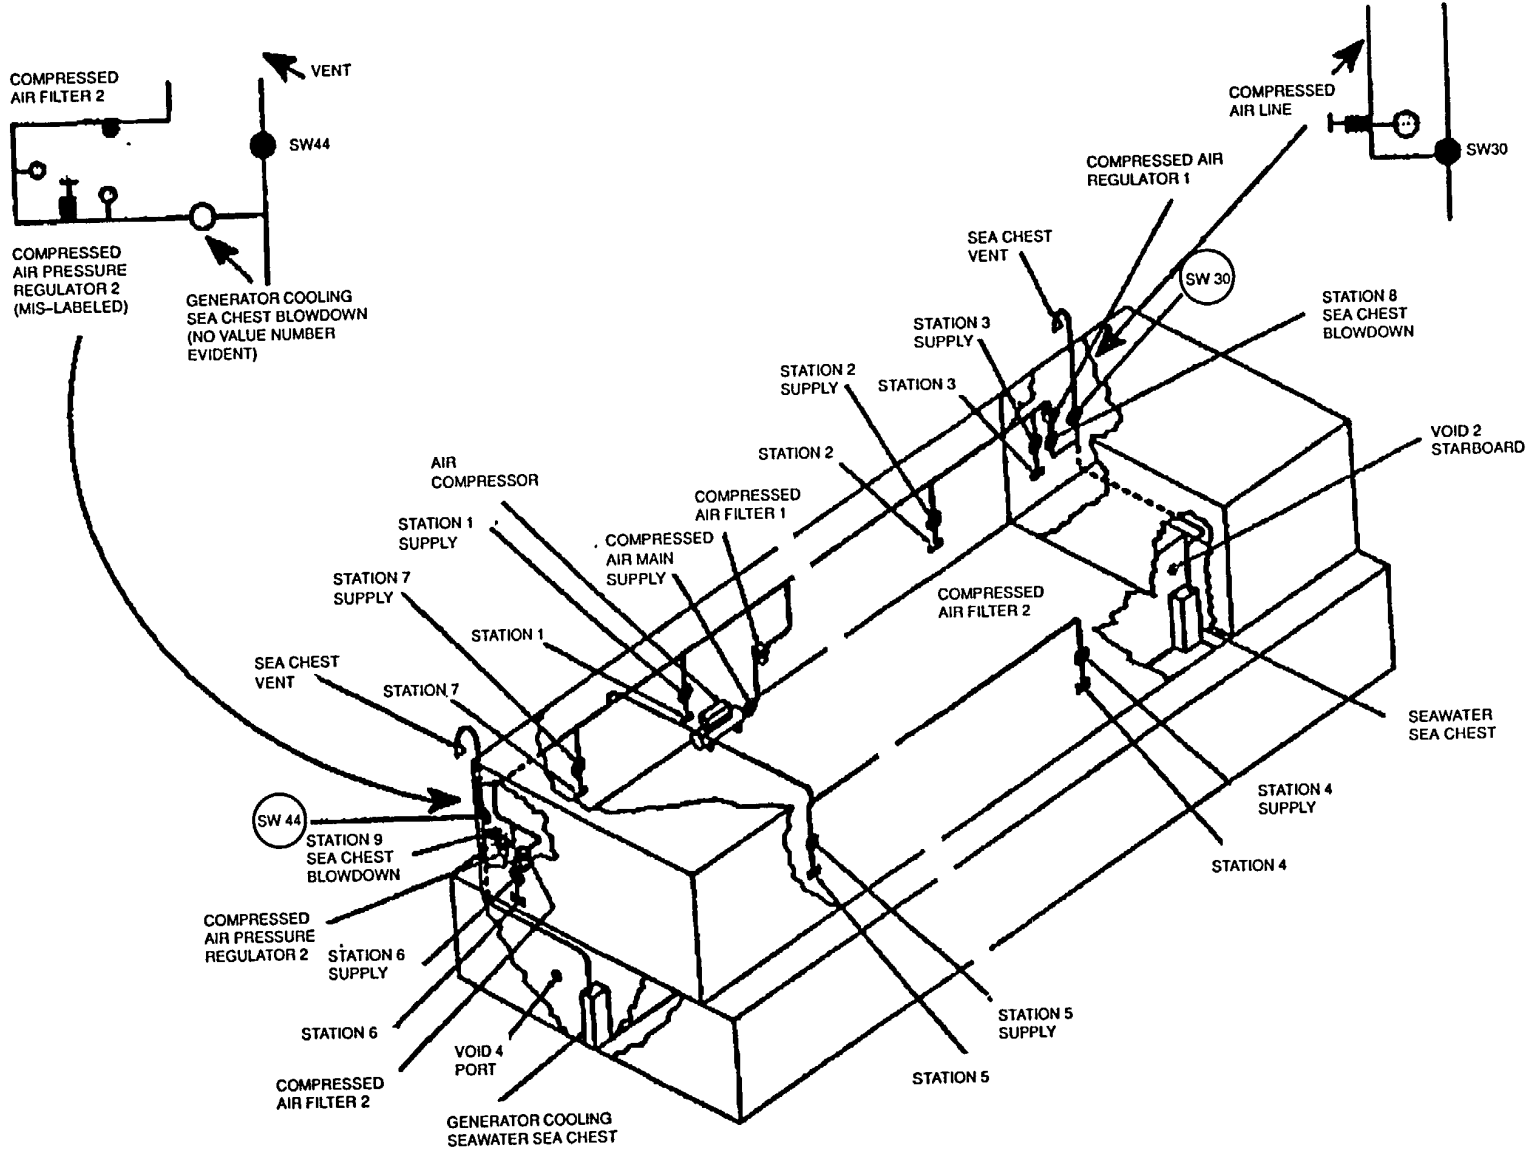

Figure 12-1. Location of Compressed Air System Components (Barge 1)
- h. Air station 8 seachest blowdown valve (Figure 12-1 and 12-2), on workshop port bulkhead, controls compressed air for blowdown of forward seachest. Valve is used with SW30.